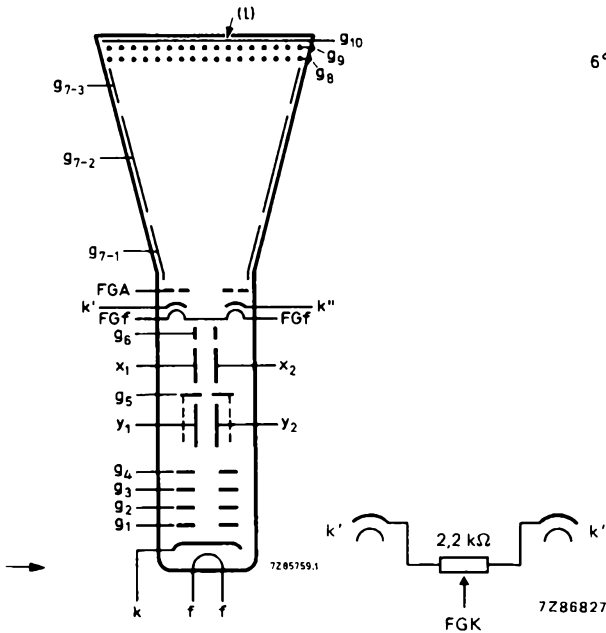

Fig. 4 Electrode configuration.
(1) With respect to FGA, all other voltages with respect to viewing gun cathode FGK (see Fig. 4 and note 11).